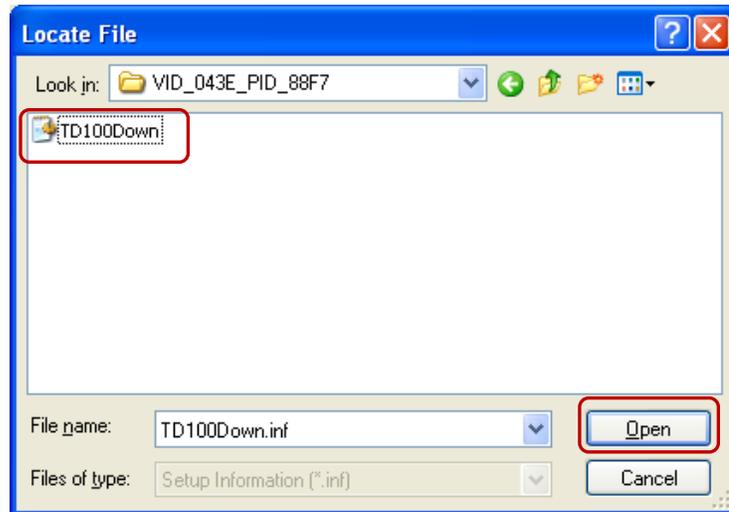

Fig. 12
- Determine the iCAM **TD100Down** driver you need to install based on the chart (found in Section 8.3 Step 1). For this example we will be updating the iCAM TD100 Vid\_043e&Pid\_88f7 Hardware: “/Program Files/Iris ID Systems/iCAM TD100 SDK/Drivers/TD100Down/VID\_043E\_PID\_88F7”, select “TD100Down.inf” and press > **“Open”** as shown in Figure 12.